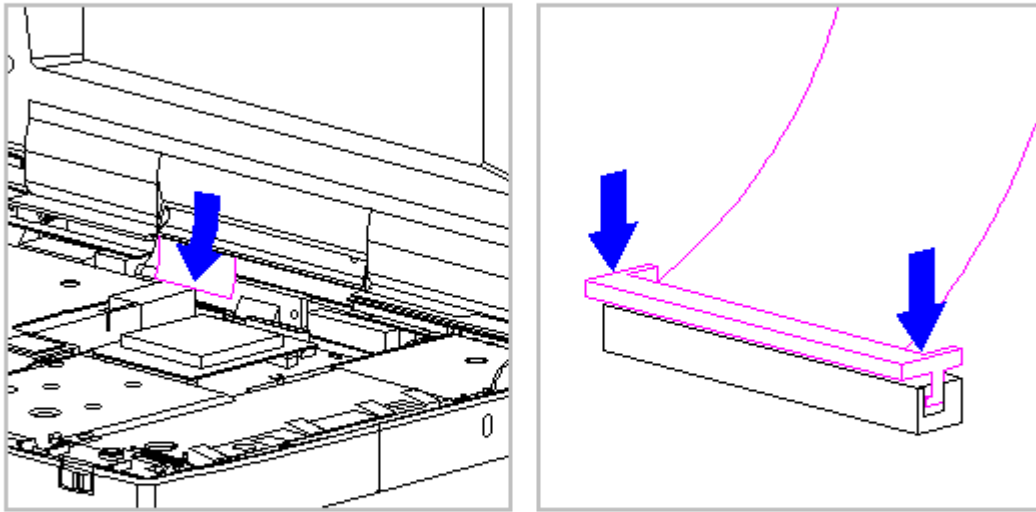

Figure 3-116. Connecting the Display Cable to the System Board
11. While holding the end of the display cable inside the ZIF connector slide, press down both ends of the slide simultaneously to secure the cable in the ZIF connector (Figure 3-116).